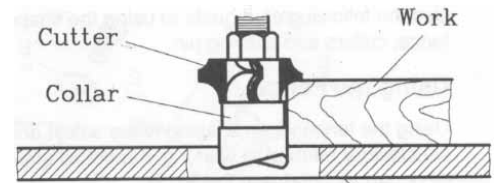

Figure 21
1. When collars are used below the cutter as shown in Fig. 21, the progress of the cut can be observed at all times. However, any lifting of the stock will cause a gouge in the cut.